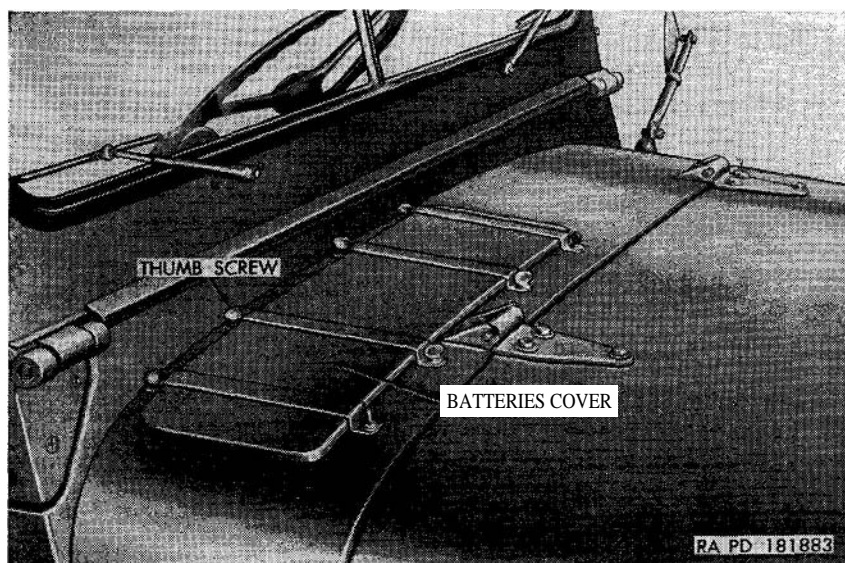
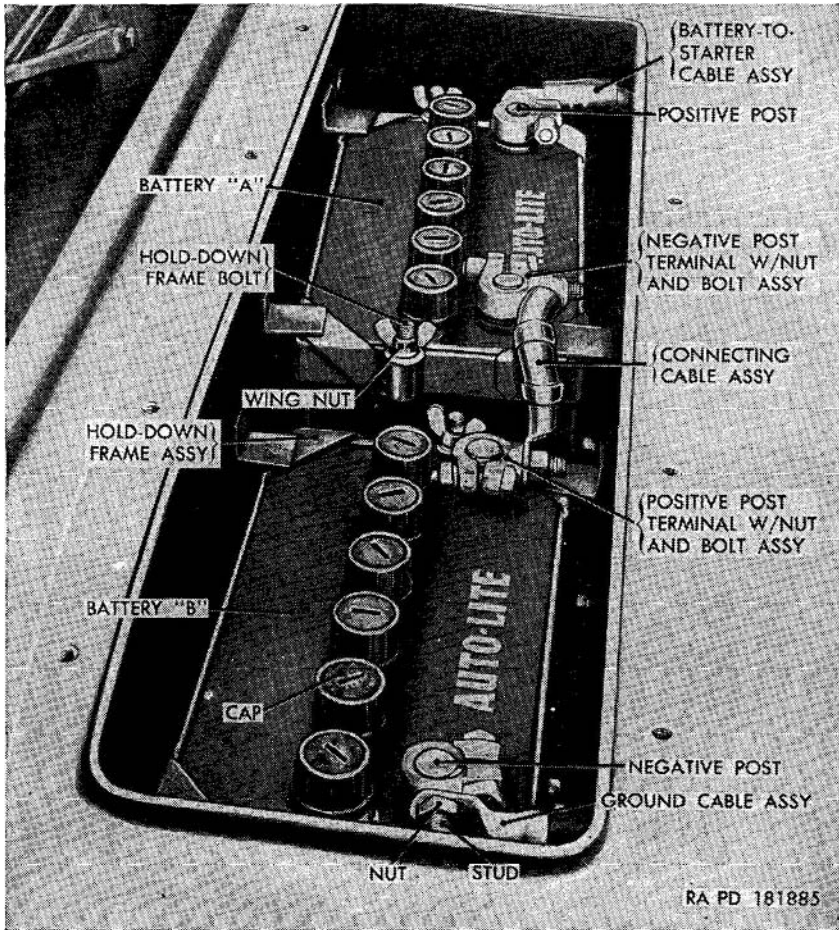

Figure 97. Batteries location—batteries cover installed (M38A1).
Figure 99. Batteries installed—batteries cover removed.
- (2) *Batteries* (fig. 99). The 24-volt primary circuit is supplied by two 12-volt lead- and acid-type storage batteries, connected in series. The batteries and connections are designed for under water operation. The batteries compartment is in front of the dash on the right side of the vehicle.
*a. Batteries.* For purposes of identification, the left battery (fig. 99) is referred to as battery "A," and the right battery as battery "B."
- (1) *Specific gravity test.* Refer to TM 9-2857 for instructions on performing specific gravity test.
- (2) *Adding water.* Refer to TM 9-2857 for instructions on adding water.
- (3) *Cleaning.* Refer to TM 9-2857 for cleaning.
- (4) *Battery "A" removal.*
- (a) Loosen the eight thumb screws (fig. 97) securing batteries cover in position on M38A1. Slide cover toward right side of vehicle to disengage it from thumb screws, and remove cover.
- (5) *Battery "B" removal* (fig. 99). Battery "B" removal is the same as battery "A" removal ( (4) above).
- (6) *Battery "A" installation.*
- (a) Lower battery "A" (fig. 99) into batteries compartment with the positive post facing left side of vehicle (see Caution (4) (d) above).
- (e) Install the negative post terminal with bolt and nut assembly and positive post terminal with bolt and nut assembly (b (9) (a) below).
- (d) Position the batteries cover (fig. 97) on M38A1 over batteries compartment and slide towards left side of vehicle to engage cover slots with thumb screws, then tighten thumb screws securely.
- (e) Check polarity ( (8) below).
- (7) *Battery "B" installation* (fig. 99) . Battery "B" installation is the same as battery "A" installation ( (6) above).
- (8) *Polarity test.* Test polarity by turning on headlights. If lights illuminate, and ammeter registers DIS, polarity is
- (e) Withdraw cable from batteries compartment (fig. 99) and remove from vehicle.
- (3) *Ground cable assembly No. 7 installation.*
- (6) *Connecting cable assembly No. 68 removal* (fig. 99).
- (7) *Connecting cable assembly No. 68 installation* (fig. 99).
- (8) *Battery cable terminal with, bolt and nut assembly removal* (fig. 99).
- (9) *Battery cable terminal with bolt and nut assembly installation* (fig. 99).